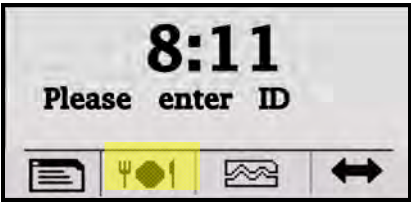

Figure 29: Enter ID for Meal Break
Step 1. From the normal main display (see **Figure 28**) press the  function button to enter an employee ID for a meal punch (see **Figure 29**).